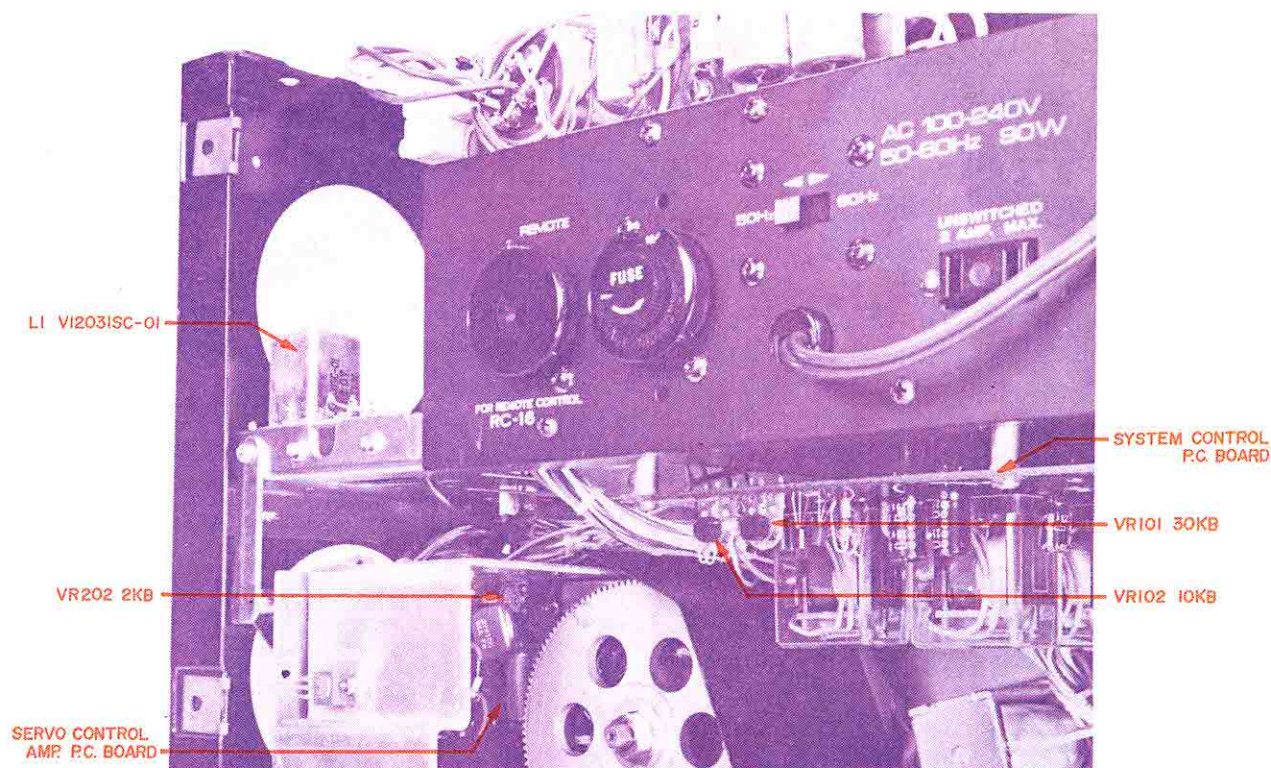

Fig. 8
- 3) Adjust the core of coil L1 (VI023SC-01) shown in Fig. 8 so that the Frequency Counter indication is 500 Hz $\pm 1\%$.
- 4) After the 3-3/4 ips (9.5 cm/sec.) tape speed adjustment has been completed, depress the 7-1/2 ips (19 cm/sec.) Tape Speed Selector and adjust Servo-Control P.C. Board semi-fixed resistor VR202 (2 k Ω) shown in Fig. 8 so that the frequency counter indication is 1,000 Hz $\pm 1/-0.5\%$.
Adjust System Control P.C. Board semi-fixed resistor VR101 (30 k Ω) shown in Fig. 8 so that when the machine is switched from FWD to REV mode or from REV to FWD mode, the pinch wheel separates from the capstan in about 3 seconds.
- 2) Adjust System Control P.C. Board semi-fixed resistor VR102 (10 k Ω) shown in Fig. 8 so that when the machine is switched from F. FWD or RWD to FWD or REV mode, the time constant is about 1.5 seconds.